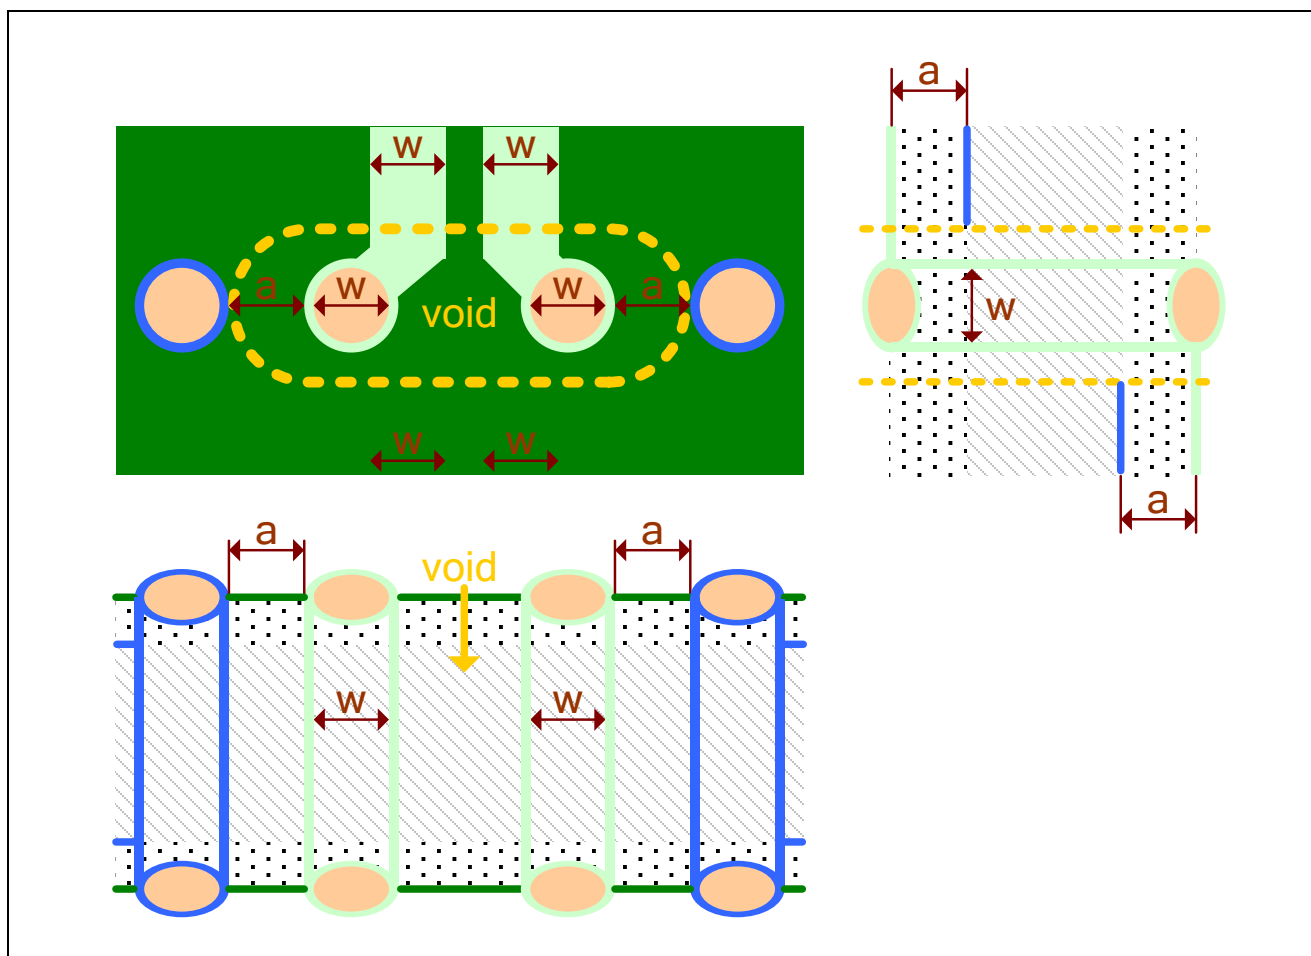

Figure 7.6 Wiring Example of the Differential Signal Transmission Line (3)
- (a) Vias of the related plane (e.g. AGND) should be placed near the signal vias. The distance between signal via and GND via should be equal to the distance between the layers to avoid a discontinuity of the impedance. (See Figure 7.6)
- (c) The diameter of the vias should be almost equal to the trace width. (See Figure 7.6)